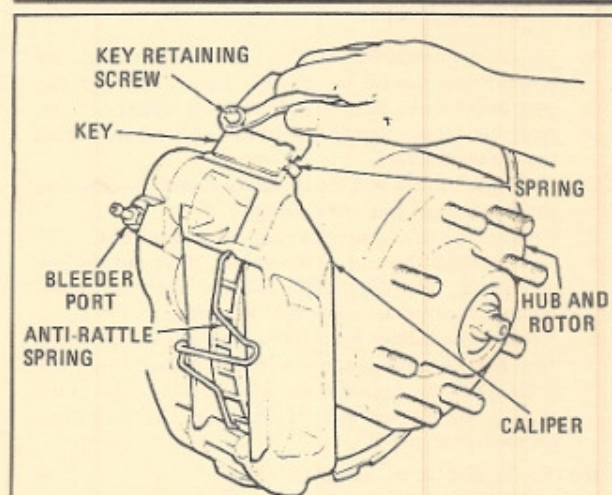

Figure 155 — Removing Key Retaining Screw
3. Remove the key retaining screw (see figure 155).